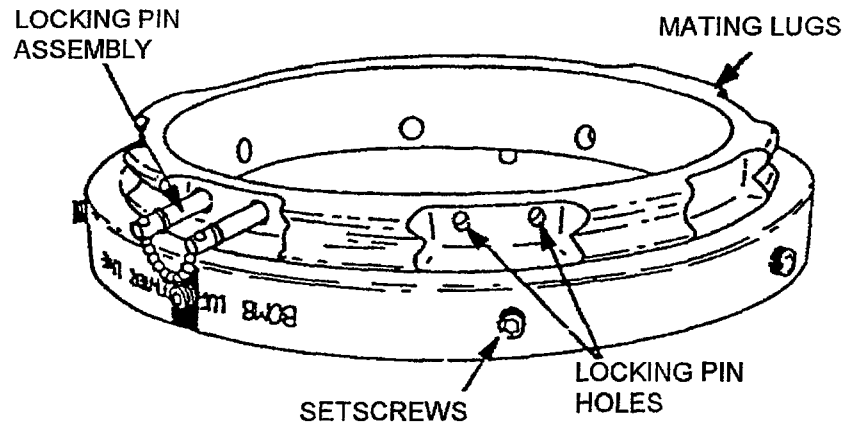

Figure 5-9C. Bomb Fin Adapter ADU-320A/B
- b. Insert locking pin assembly into bomb fin adapter (Figure 5-9C).